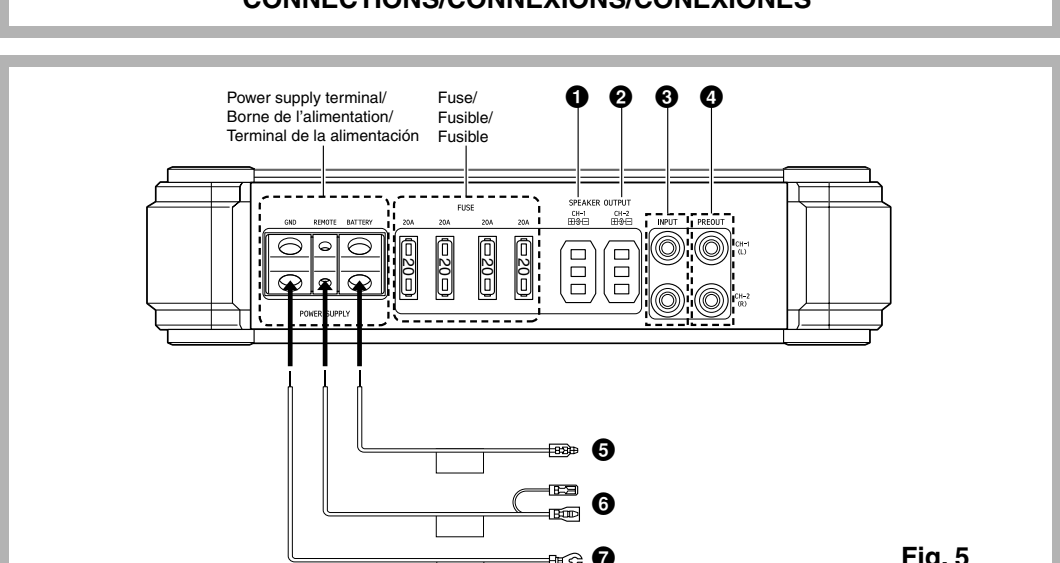
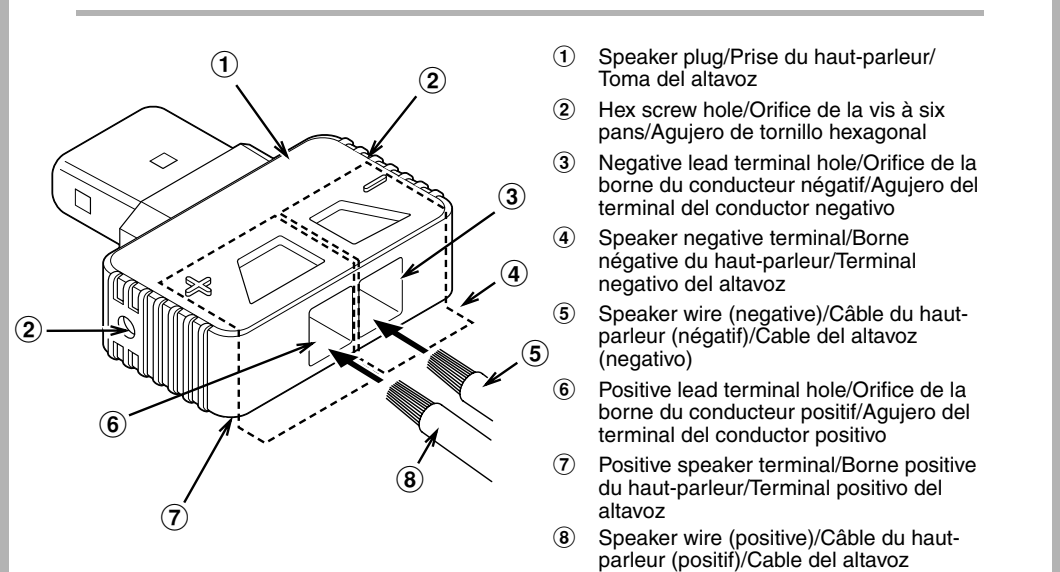

Fig. 5
Fig. 8
CONNECTIONS (Fig. 5 - Fig. 8)
- Insert fully the exposed conductor of the speaker wire into the wire terminal hole. Refer to Fig. 8.